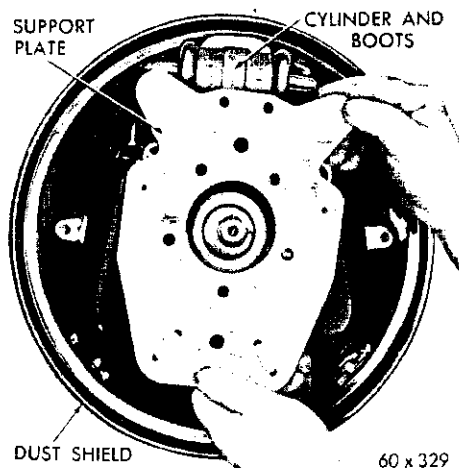

Fig. 15—Removing the Rear Support Plate
(8) Remove each wheel cylinder mounting bolt after removing the sealer. Remove the support plate assembly, from the dust shield, as shown in Figure 15.
(9) Remove the wheel cylinders. If it is necessary to service the wheel cylinders, refer to Paragraph "Servicing the Wheel Cylinders".
(3) Slide the support plates out and away from the axle, as shown in Figure 15. When removing the dust shield, it is advisable to install the seal protector, Tool C-745, then slide the dust shield and seal off axle.
(4) Remove the bolts that attach the wheel cylinder to the support plate. Lift the wheel cylinder away from the plate. Inspect and clean the support plate. If reconditioning the wheel cylinders, refer to Paragraph "Wheel Cylinders".